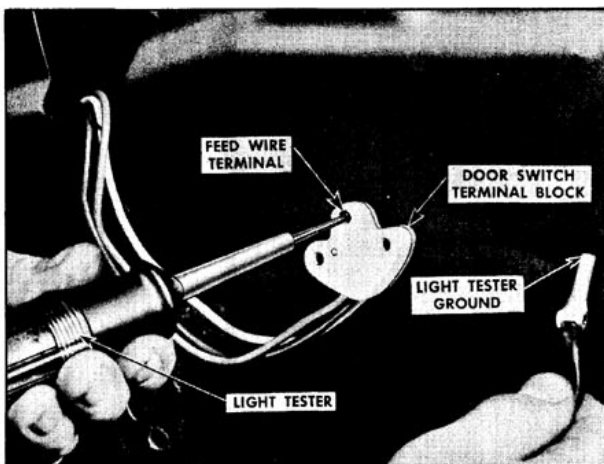

Fig. 16-170 Checking at Window Switch
1. Connect one light tester lead to feed terminal of switch block and ground other tester lead to body metal. (Fig. 16-170)